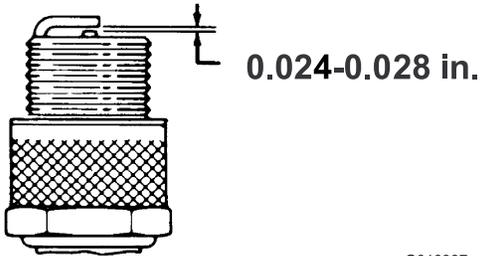

Figure 27
3. Ensure that the air gap is correct (Figure 27).